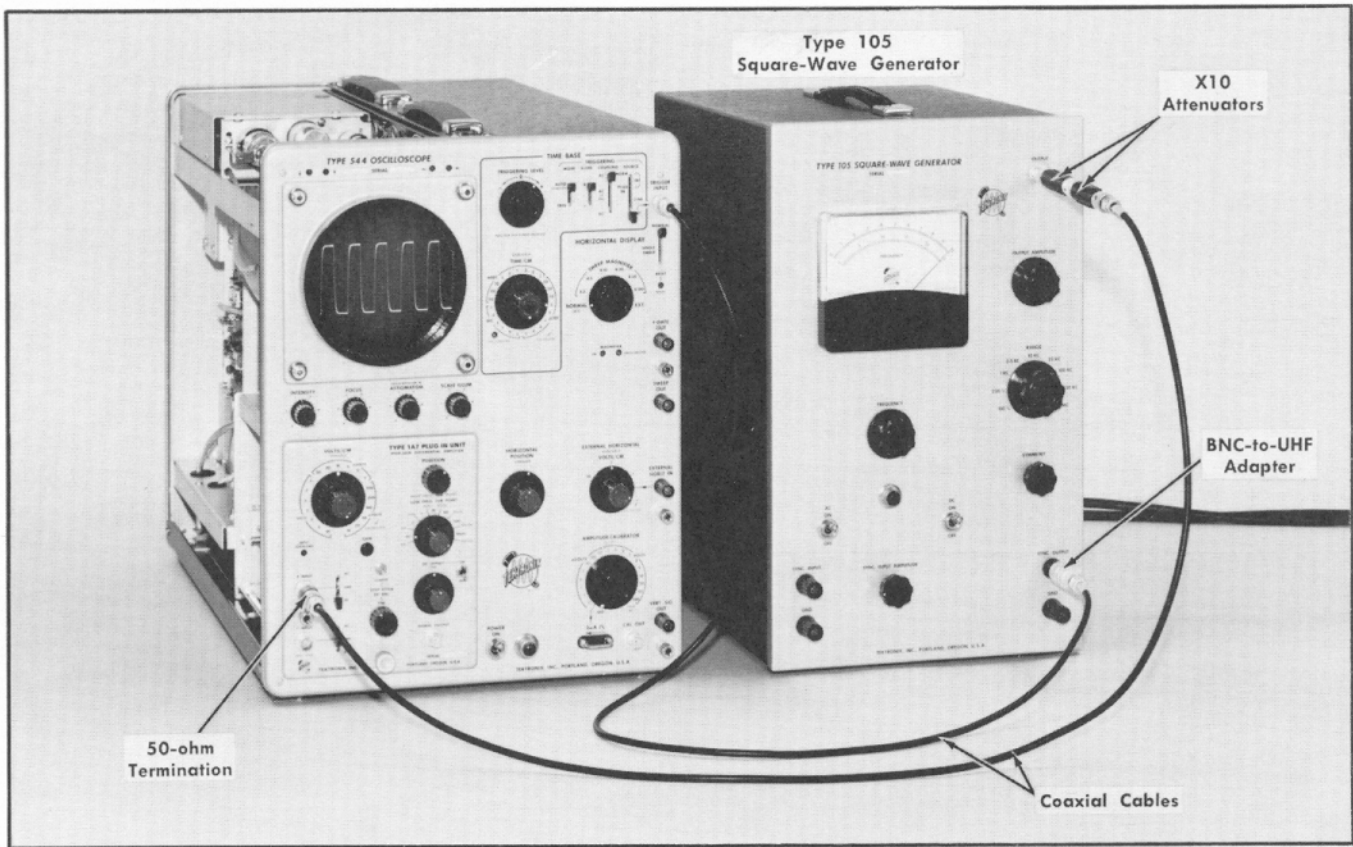

Fig. 6-37. Setup at completion of step 25d.
d. Connect a coaxial cable from the oscilloscope External Trigger Input connector through a BNC-to-UHF connector adapter to the Type 105 Sync Output connector. Fig. 6-37 shows the setup.